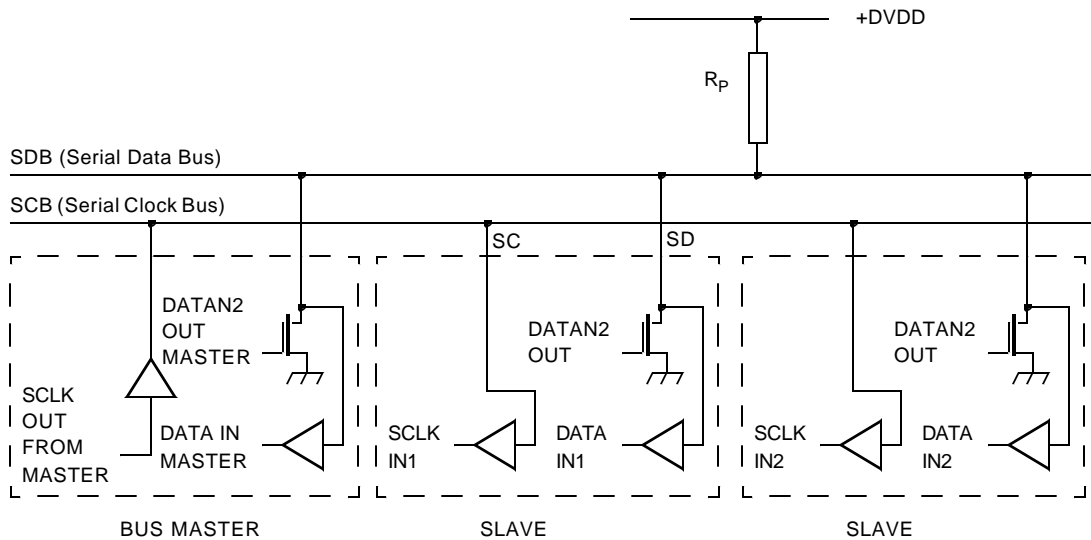

Figure 17: Connection of Devices to the Bus
The CH7007 contains a standard I²C control port, through which the control registers can be written and read. This port is comprised of a two-wire serial interface, pins SD (bidirectional) and SC, which can be connected directly to the SDB and SCB buses as shown in **Figure17**.
The Serial Clock line (SC) is input only and is driven by the output buffer of the master device (also shown in **Figure17**). The CH7007 acts as a slave, and generation of clock signals on the bus is always the responsibility of the master device. When the bus is free, both lines are HIGH. The output stages of devices connected to the bus must have an open-drain or open-collector to perform the wired-AND function. Data on the bus can be transferred up to 400 kbit/s.
The electrical specifications of the bus devices' inputs and outputs and the characteristics of the bus lines connected to them are shown in **Figure17**. A pull-up resistor (R_p) must be connected to a $3.3V \pm 10\%$ supply. The CH7007 is a device with input levels related to DVDD.